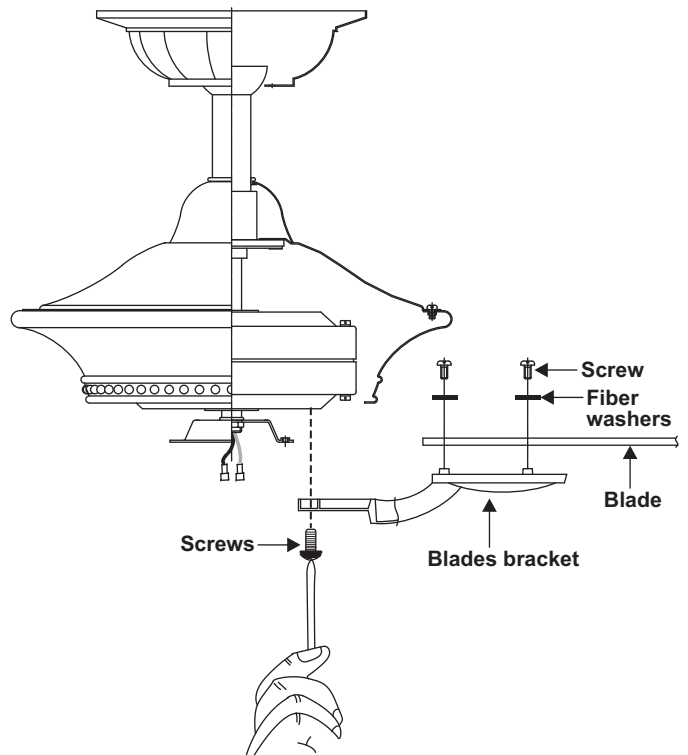

Figure 13
Step 1 Attach the blades to the blade brackets using the screws and fiber washers provided as shown in Figure 13. Start a screw into the bracket, but do not tighten. Repeat for the other 2 screws and washers.
Step 3 Fasten blade assembly to motor using the screws supplied. (Figure 13).